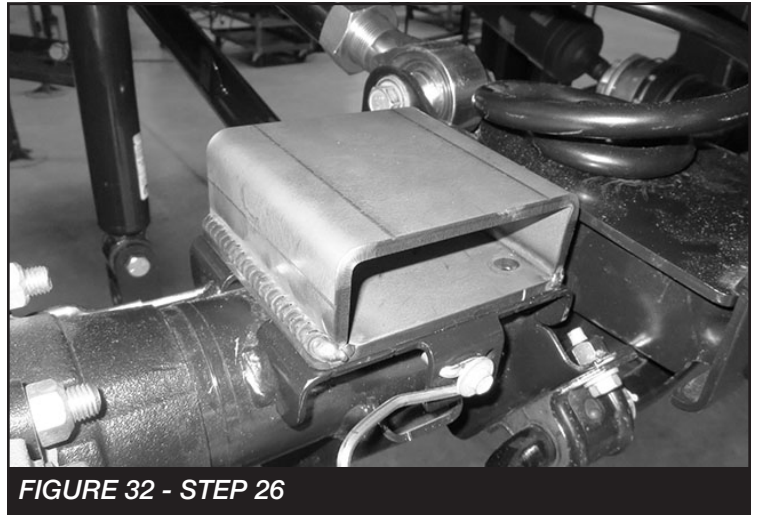

**FIGURE 30 - STEP 25**
25. Install the new rear spacer using the supplied 3/8" hardware. **SEE FIGURE 30**